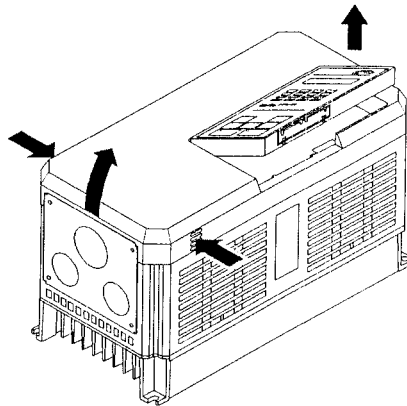

Figure 2-5
12. Remove the drive cover. For Models 2003-FVG+ through 2033-FVG+ and 4001-FVG+ through 4014-FVG+ and 5003-FVG+ through 5022-FVG+. See Figure 2-5. On larger size drives, the cover is attached with screws.